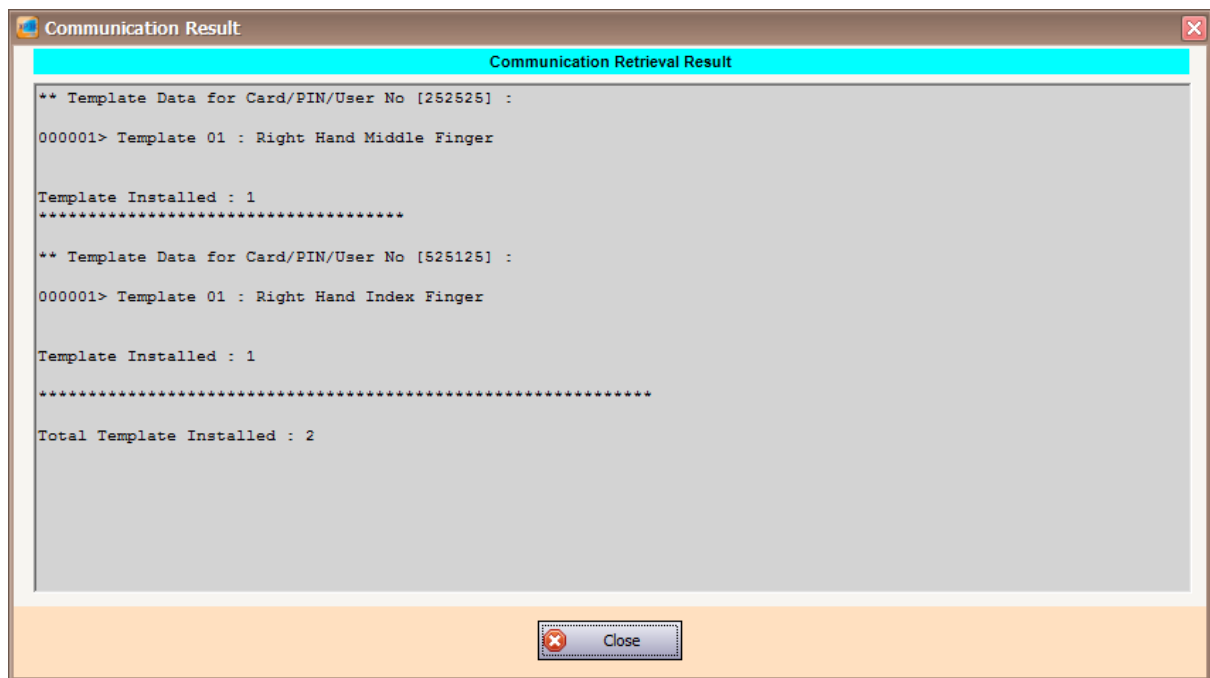

Figure 250 - Communication Retrieval Result
3. A Communication Retrieval Result window will be shown to display the result from the get template (Refer **Figure 250**). Click Close to continue to the next screen.